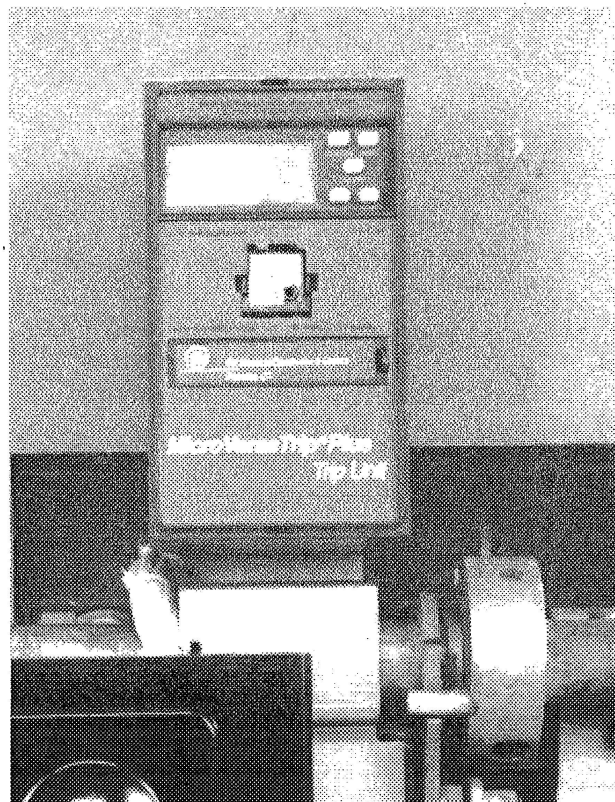

Figure 22. Trip unit installed on the breaker.
3. Push the trip unit against the mounting plate until it locks into position. The locking lever will automatically snap back to secure the trip unit. Figure 22 shows an installed.